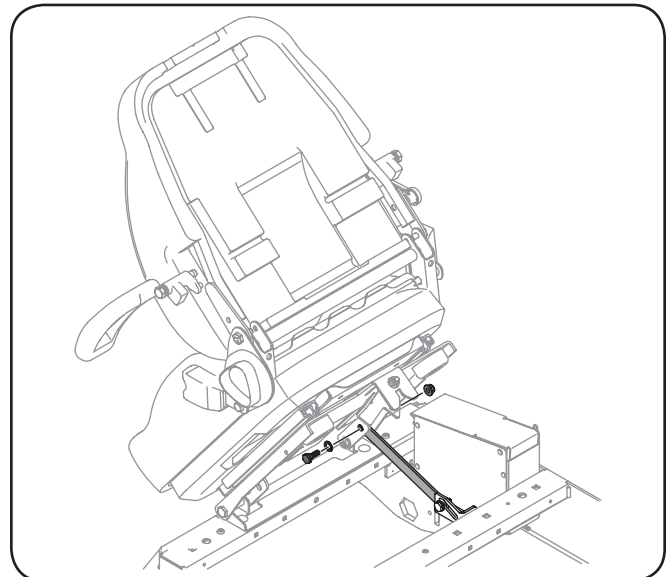

Figure 3-11
3. Remove the shoulder screw and flange lock nut from the support cable and install the support cable with the previously removed hardware. See Figure 3-11.